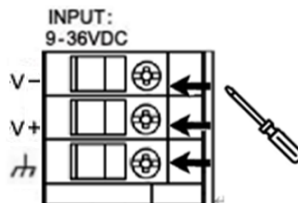

Figure 2.5 - Power Terminal Block
2. Tighten the wire-clamp screws to prevent the wires from loosening, as shown below in *Figure 2.5*.